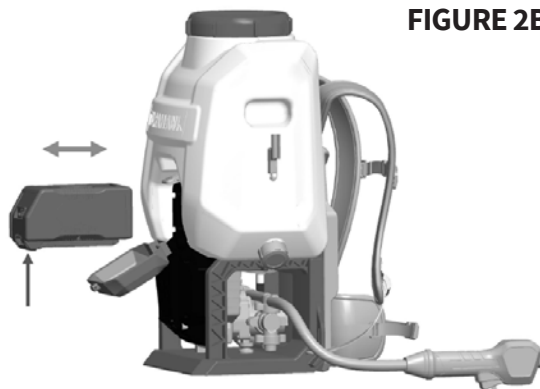

FIGURE 2B
5.4.1 Open the door of the machine's battery compartment. **FIGURE 2B.**